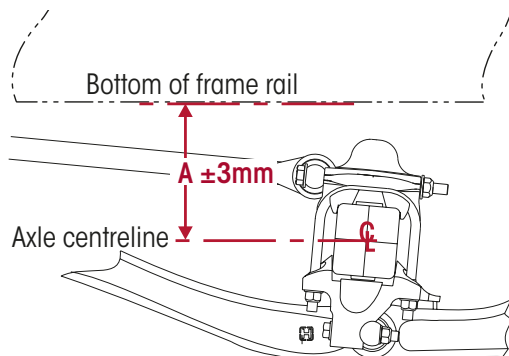
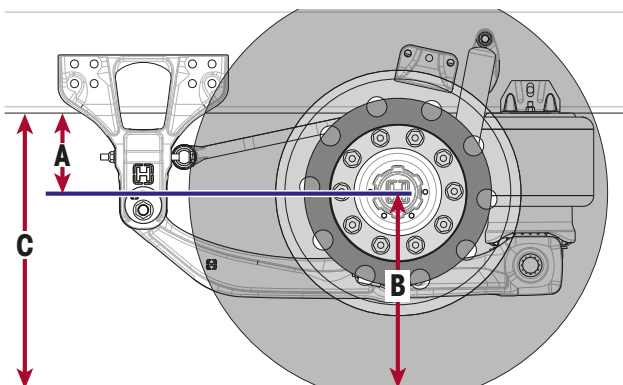

Figure 26: Ride Height Measurement (within ± 3 mm)
Figure 27: Simple Ride Height Check
NOTICE: All ride heights to be taken on the axle attached to the height control valve(s). Ride height is measured from the underside of the frame to the axle centreline. Refer Figure 26.
First ensure that the tyre pressures are even and correct. Then measure and record the height of the hubcap centre above the floor (**B**). Subtract this distance from the height of the underside of the chassis frame rail above the floor (**C**) to find the ride height (**A**). Refer Figure 27.
NOTICE: All ride heights are measured on the axle attached to the height control valve(s). Ride height is measured from the underside of the frame to the axle centreline. Refer Figure 26 and "Simple Ride Height Check" on page 23 .
6. Measure the suspension ride height. Measure the distance from the underside of the frame rail to the axle centreline. Refer Figure 26 or Figure 27.